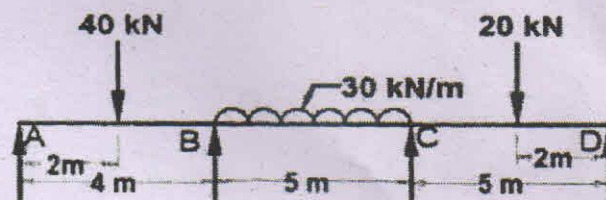

Figure 1
2. (a) A fixed beam AB of span 6 m carries a uniformly distributed load of 15 kN/m run over the left half and a concentrated load of 30 kN at a distance of 1.5 m from the right support. Calculate fixed end moments and hence draw the Bending Moment Diagram (BMD). (10)
- (b) Prove that the centroidal distance of free BMD is equal to the centroidal distance of the fixed BMD from the left support. (5)
3. (a) Write the statement of the Clapeyron's theorem for the continuous beam. (3)
- (b) Using Clapeyron's theorem determine the support moments of the continuous beam shown in Figure 1. Also, determine the reactions at the supports. Draw the BMD. (12)